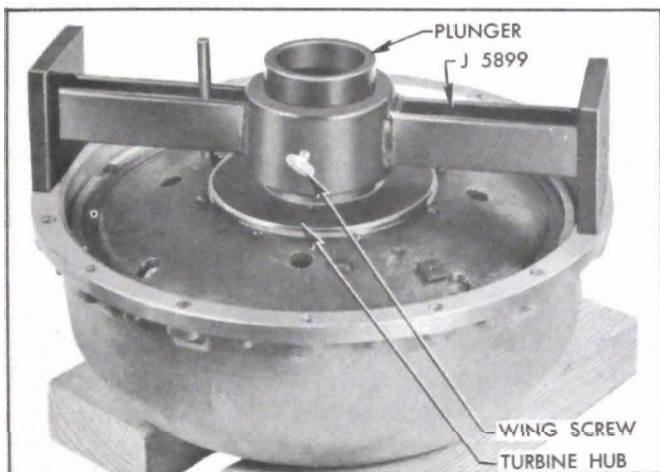

Figure 5-101—Gauge J 5899 on Pump and Turbine
5. Install Converter Clearance Gauge J 5899 on converter pump flange, making sure that indicator post does not contact the turbine. Loosen wing screw, firmly press gauge plunger down against first turbine hub and tighten wing screw. See figure 5-101.